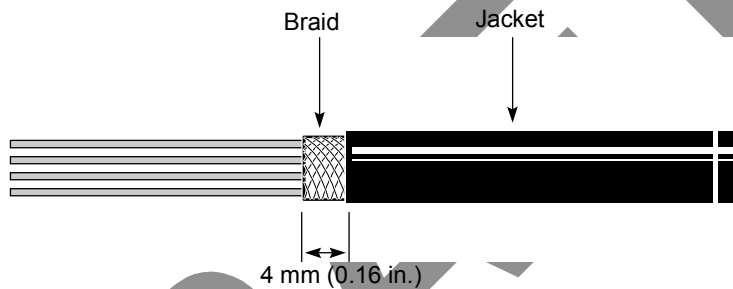

Figure 47 – Exposing the shielding
4. Strip off the braided shielding to expose the aluminum-mylar shielding. Leave 4 mm (0.16 in.) of braided shielding; see Figure 47.